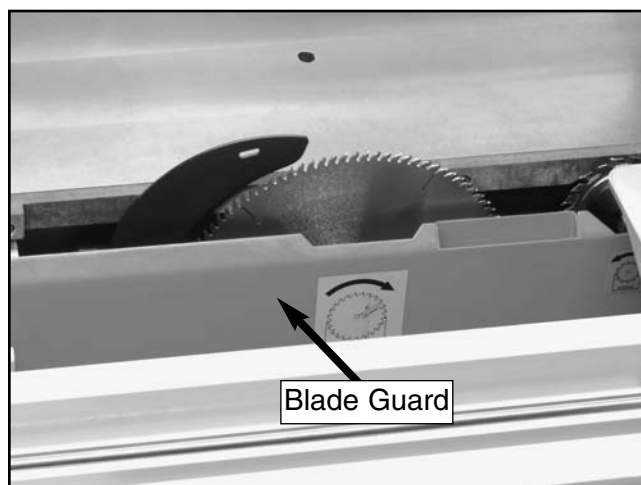

Figure 83. Blade guard exposed to access riving knife.
3. Move the sliding table all the way to the left and push the release knob to expose the internal blade guard (**Figure 83**) that covers the blades and riving knife.